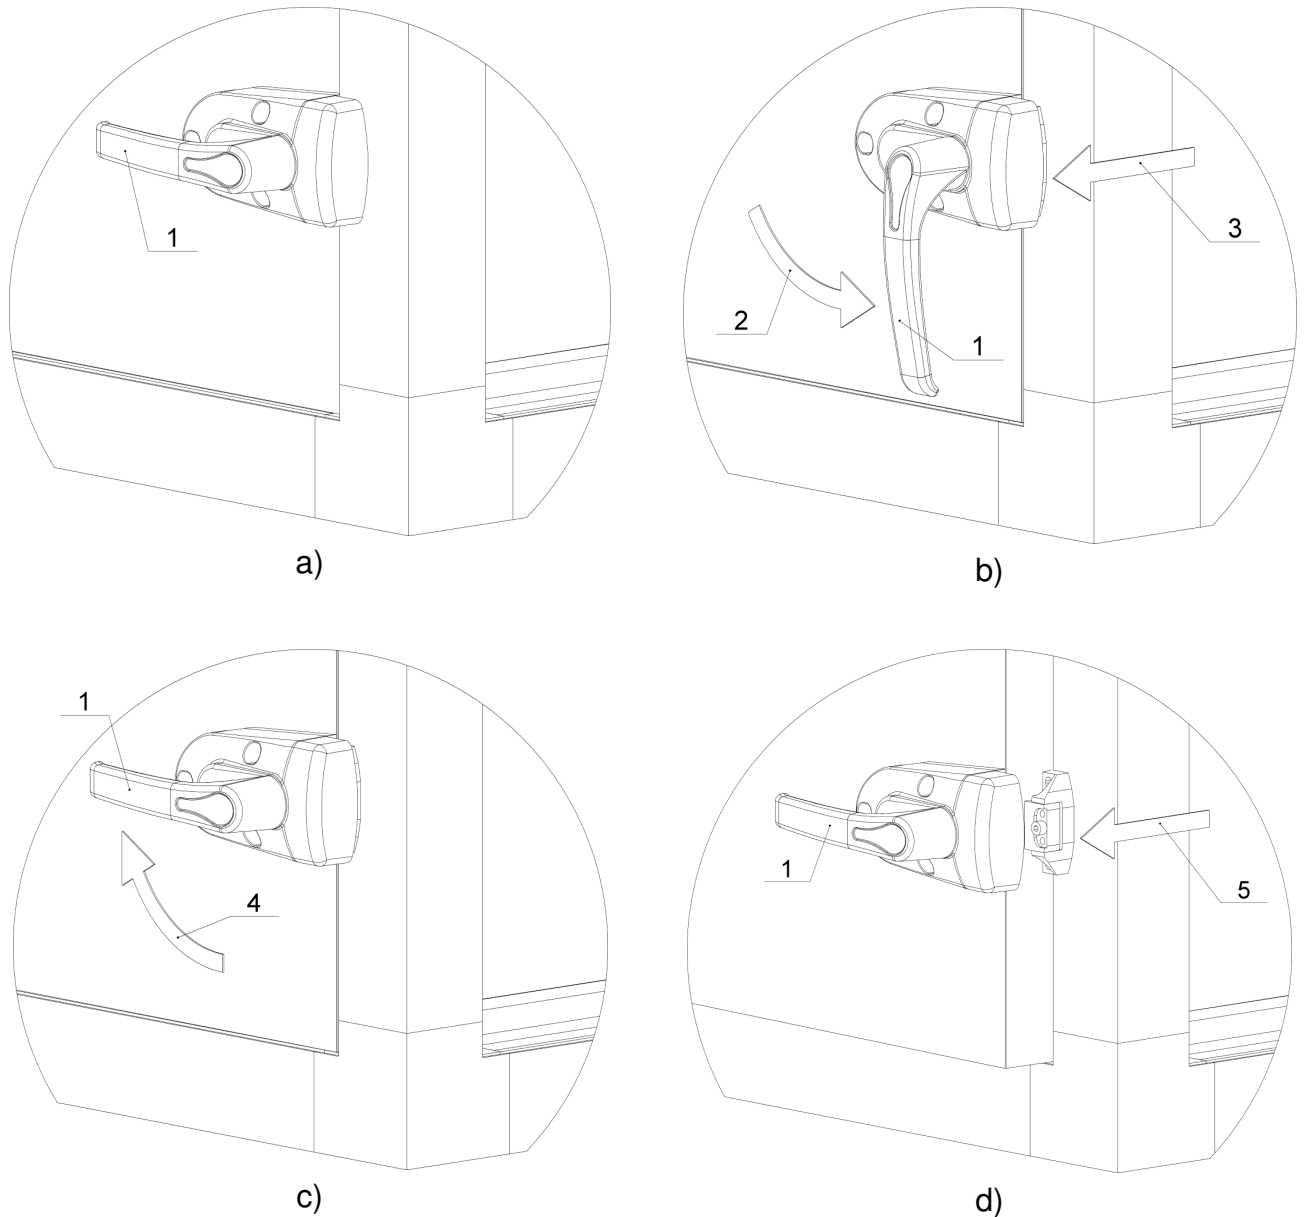

Figure 9.5.1 - AmberAir access door opening sequence.
Access doors of AmberAir air handling units are equipped with a door handle with over-pressure protection. Refer to Figure 9.5.1 a) which shows handle in closed position. Locking mechanism of access panel is on the outer side of the unit.
### Door opening sequence (Figure 9.5.1):
2. Turn handle 1 in direction 2 (Figure 9.5.1 b).
4. Turn handle in direction 4 (Figure 9.5.1 c).
6. Pull handle in direction 5 to open the access door (Figure 9.5.1 d).